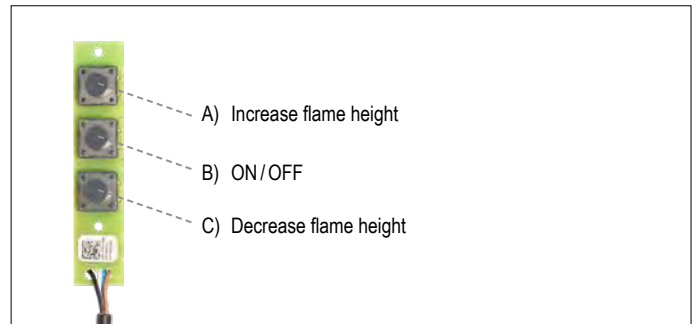

Figure 20: Switch Panel
- Press "B" button (see figure 20, page 11) until two short beeps (CE, AGA version) or continuous beeping (CSA version) confirm the start sequence has begun; release button.